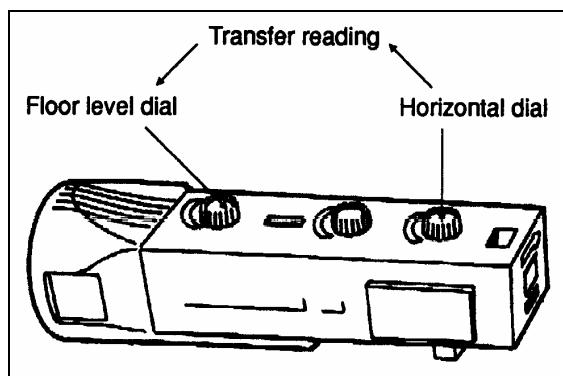

FIGURE 41: HEADLIGHT ALIGNER
6. Set according to floor slope. Transfer positive (+) or negative (-) reading of horizontal dial to the floor level offset dial to offset floor slope on each aligner (Fig. 41). Push on the floor level offset dial to register reading.